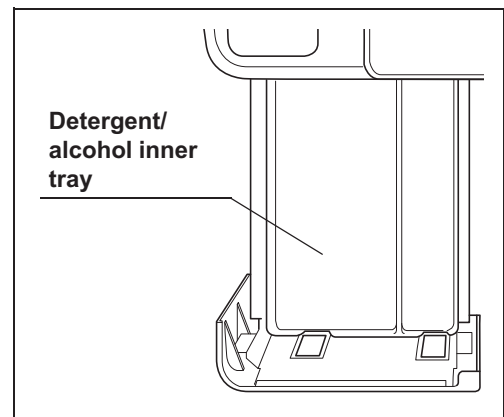

Figure 4.115
- 2 Check if the detergent/alcohol inner tray is properly installed as shown in Figure 4.115.